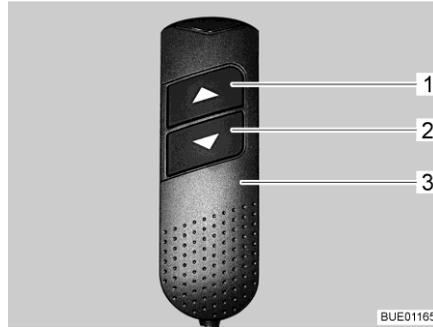

Fig. 103 Control unit (pull-down bed)
- On the control unit (Fig. 103,3) press both arrow keys (Fig. 103,1 and 2) simultaneously and keep them pressed until the pull-down bed has moved fully down. Once the button is released, a beep sounds to confirm.
- On the control unit (Fig. 103,3), press the bottom arrow key (Fig. 103,2) and keep it pressed until the pull-down bed has moved down into its end position.
- On the control unit (Fig. 103,3), press the top arrow key (Fig. 103,1) and keep it pressed until the pull-down bed has moved up into its end position.
- Use the arrow keys (Fig. 103,1 or 2) to move the pull-down bed in the opposite direction.